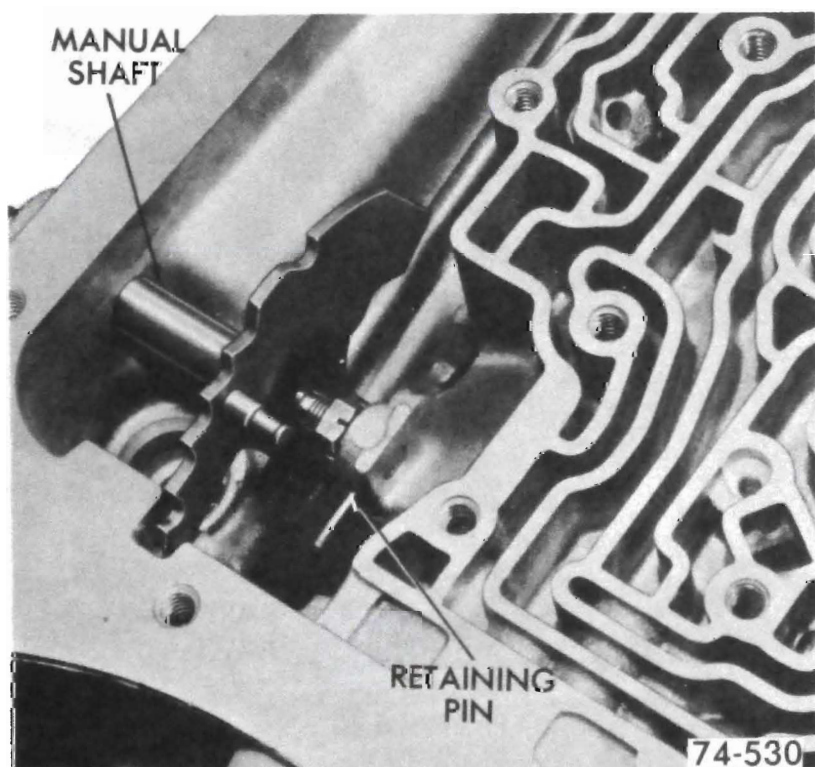

Figure 76-74
b. Remove manual shaft retaining pin from case. It may be necessary to bend pin to remove. See Figure 76-74.